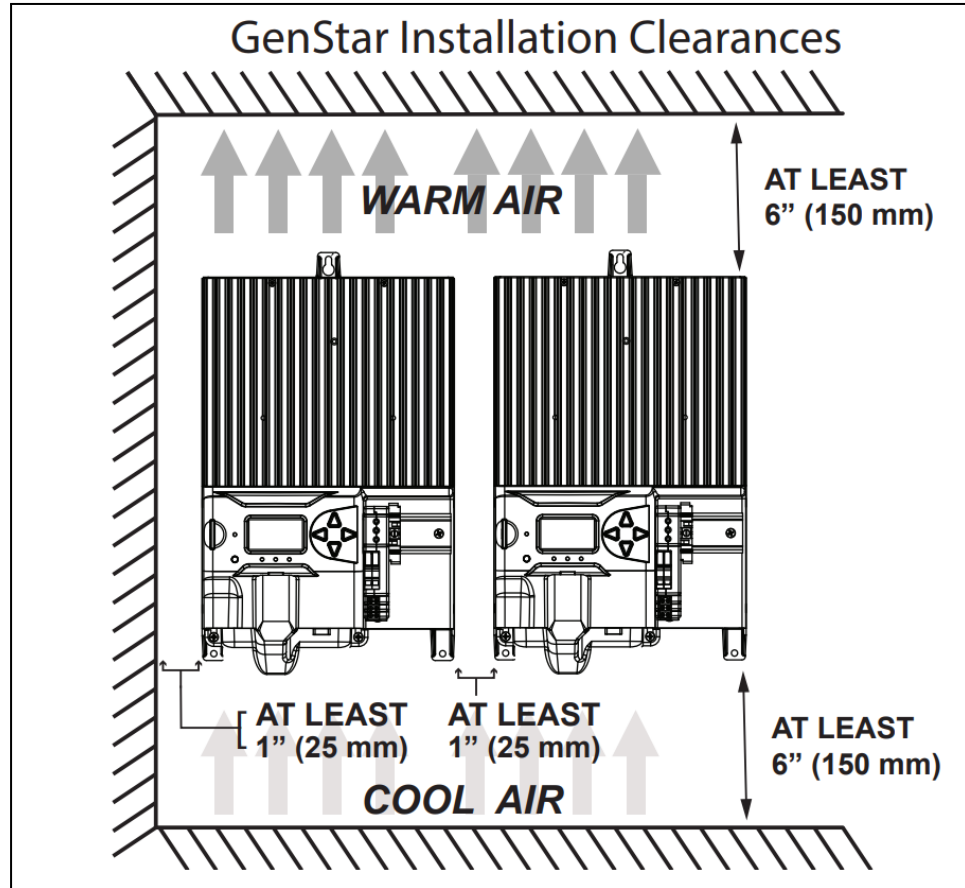

Figure 19. Required Mounting Clearances for Proper Airflow
- When mounting the GenStar MPPT inside an enclosure, ensure proper clearances are maintained as shown in Figure 19. Failure to maintain these clearances will likely result in higher operating temperatures for the GenStar than what is projected using the method in this paper.
- The GenStar MPPT is recommended to be mounted vertically on a wall as depicted above in Figure 19. The GenStar not only features a large extruded aluminum heat sink on the face of the controller, but the backside structure is manufactured as a finned aluminum casting. This casting body also plays a sizable role in dissipating heat. The buoyancy driven airflow from natural convection works best when air is allowed to rise unimpeded through the fin channels on the front and back simultaneously.